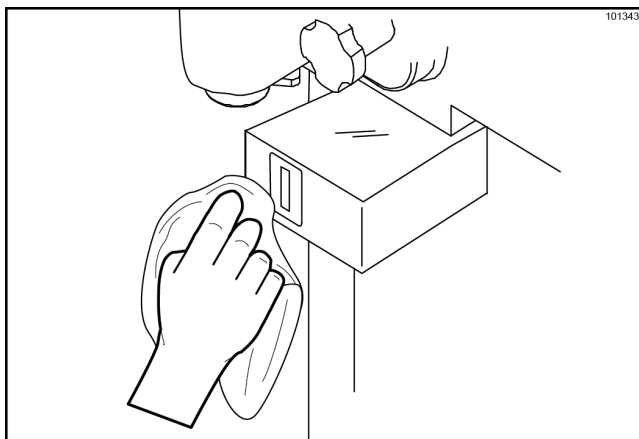

Figure-61
19. Use a clean, damp, sanitized towel to gently wipe the portion control sensor shield and remove any mix buildup. Inspect the sensor shield for damage and replace if necessary. (See Figure-61.)